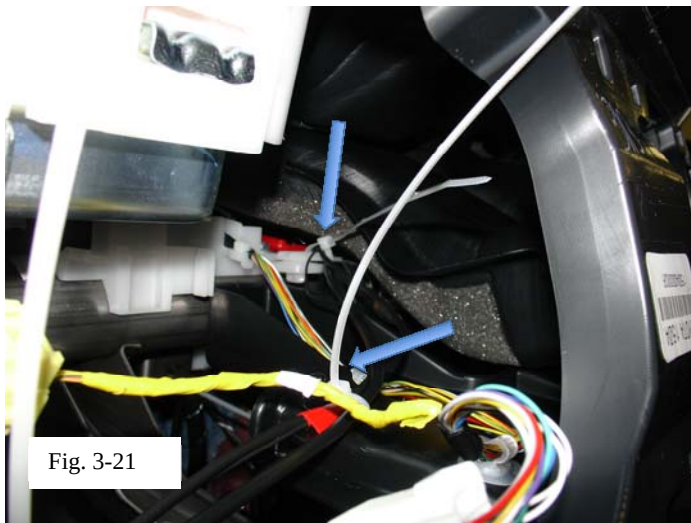

Fig. 3-21
12. Continue running wire along existing harness inside passenger side dash opening and secure with two (2) wire ties as shown. (Fig. 3-21)